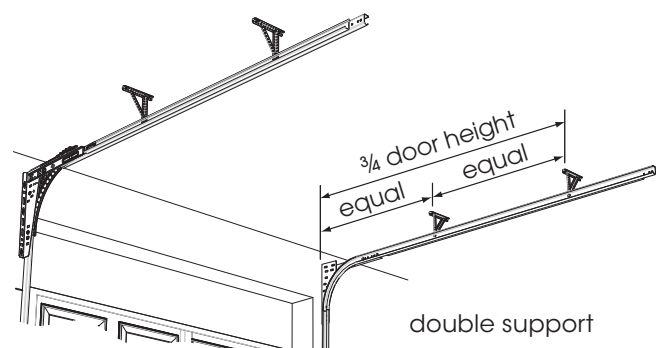

Fig: 3.4.2
- e) Measure along the horizontal track to the desired position and find a structurally sound location to fix your support to the ceiling or side wall. Fig 3.4.2.